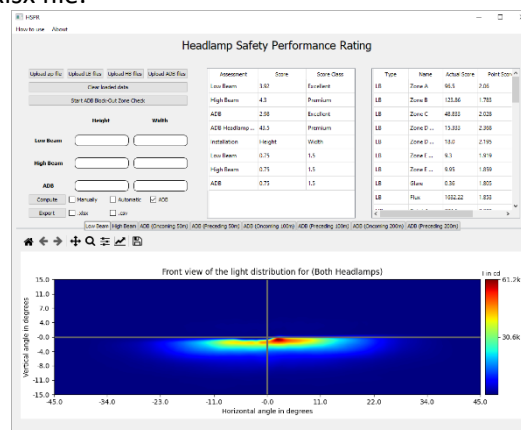

Figure 2 User Interface of the HSPR software after completion of the calculation.
Before the calculation, it must be indicated by checking the corresponding box whether the HB is operated manually, automatically or as an ADB. By pressing "Compute" the evaluation of the headlamp system starts, which can also be seen by the evaluation results starting to pop up in the terminal window. When the evaluation is finished (shown by pop-up window) the "visualization of the results" (4) the "overall results" (5) and the "detailed results" (6) will be displayed in the User Interface like shown in Figure 2. Using the Export Button, the results can be saved as .csv or .xlsx file.